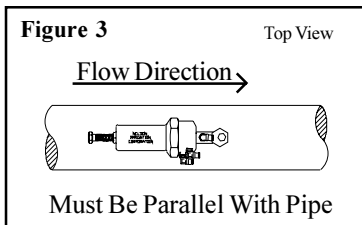

Figure 4
**Installation of the Rate-of-Flow unit.** Unthread the Control Body from the Paddle Assembly at point "C" and thread the Paddle Assembly into the coupler (after it has cooled from welding). Take care not to lose the rubber washer that acts as a tension spacer between the Control Body and the Paddle Assembly. Be sure that the threaded hole for the Control Body on the Paddle Assembly faces directly upstream when giving the Paddle Assembly a final tightening. See Figure 3. It is imperative that the Control Body be parallel with the pipeline in the upstream direction. Avoid damaging the threads for the Control Body, when tightening the Paddle Assembly, by using proper wrench positioning shown in Figure 4. Reattach the Control Body and plumb in the two control tubes from the ports labeled "VALVE" and "UPSTREAM" into their respective ports.